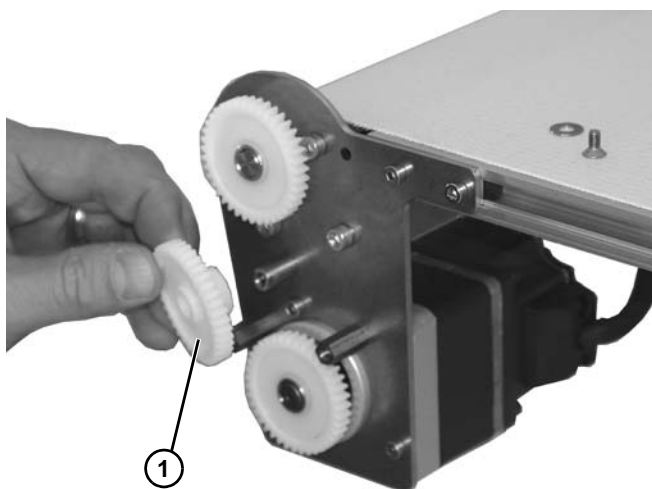

Figure 4
3. Remove gear (**Figure 4, item 1**).